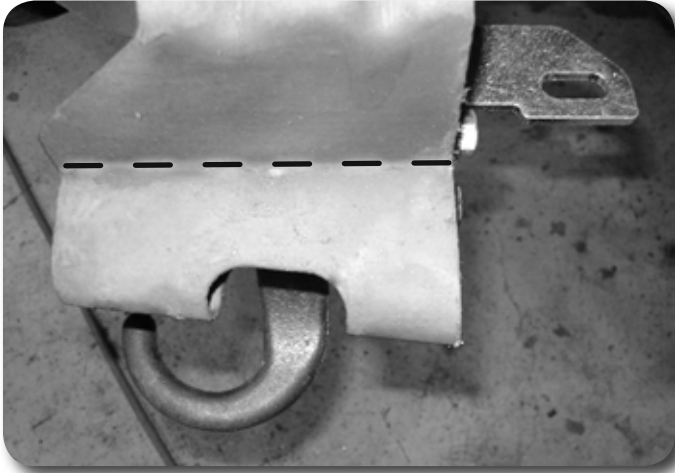

Figure 20C
45. Make a second cut line along to remove the front 'bumper' protruding from the face of the bracket. **Figure 20C**. Cut the 'bumper' off with a reciprocating saw. Paint any exposed metal.